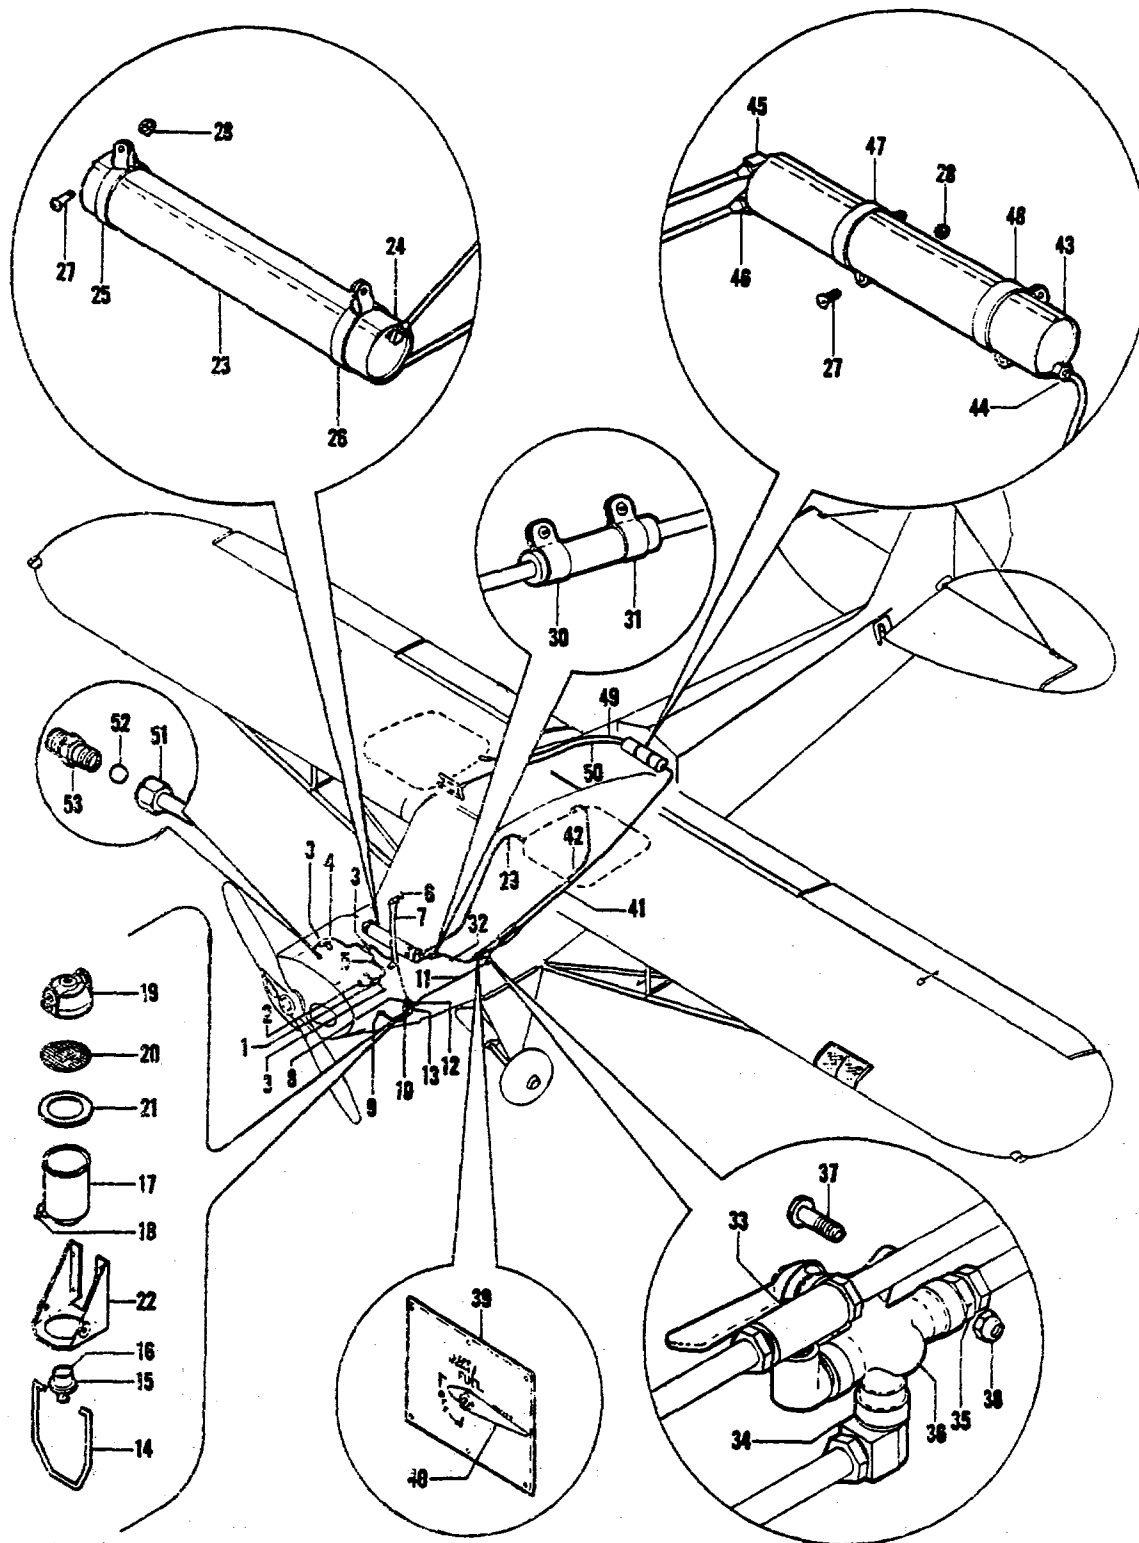

Figure 5-6. Fuel System Installation
5-27. DESCRIPTION. (See figures 5-6 and 5-7.) The fuel system consists of a 37 gallon gravity flow fuel system incorporating two 18 gallon wing tanks and two one-half gallon header tanks. A fuel shut-off valve is adjacent to the front seat. A fuel strainer equipped with a quick drain is mounted on the engine side of the firewall. The wing tanks incorporate visual type fuel gages extending into the cabin from each wing root. Since the fuel system has several components, servicing instructions will be provided separately for each individual component.
5-28. REMOVAL OF FUEL TANKS. (See figures 5-6, 2-1 and 5-8.)
5-31. INSTALLATION OF FUEL TANKS. (See figures 5-6, 2-1, and 5-8.)
5-32. **SERVICING THE FUEL HEADER TANKS.** (See figure 5-6.) Examine the fuel header tanks (43, figure 5-6) and fittings for leaks, damage and insecurity of mounting. If a tank leaks or is severely dented or otherwise damaged, drain the fuel system and replace the tank with a new one.
Legend for Figure 5-6
5-35. **SERVICING THE FUEL STRAINER.** (See figure 5-6.)
b. Drain the fuel strainer (13, figure 5-6) by opening drain valve (18). Disassemble bale wire (14), bale nut (15), and bowl seat (16) from the fuel strainer bowl (17). Lift fuel strainer bowl from bracket (22). Remove cover (19), screen (20), and gasket (21) from the fuel strainer bowl. Clean all parts of the fuel strainer in gasoline. Replace damaged parts with new ones.